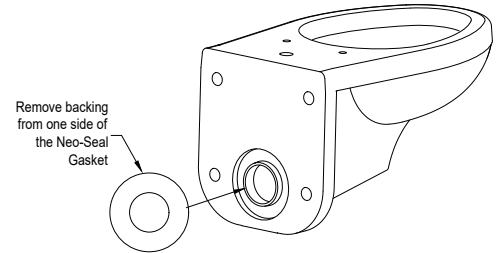

Figure 17.
17. Peel off the removable backing from one-side of the Neo-Seal Gasket and seat into the groove of the water closet outlet horn. See **Figure 17**.